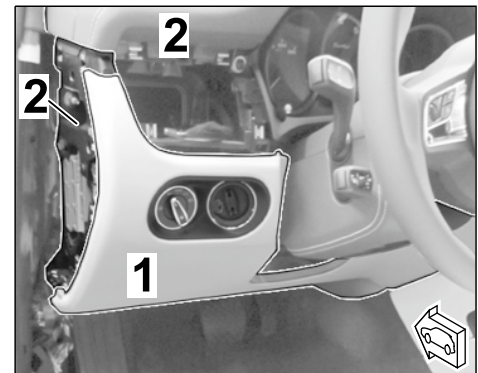

Figure 14
1.5.4 Remove trim panel under dashboard (⇒ *Figure 14*) (⇒ *Workshop Manual '701919 Removing and installing trim panel under dashboard on driver's side*).